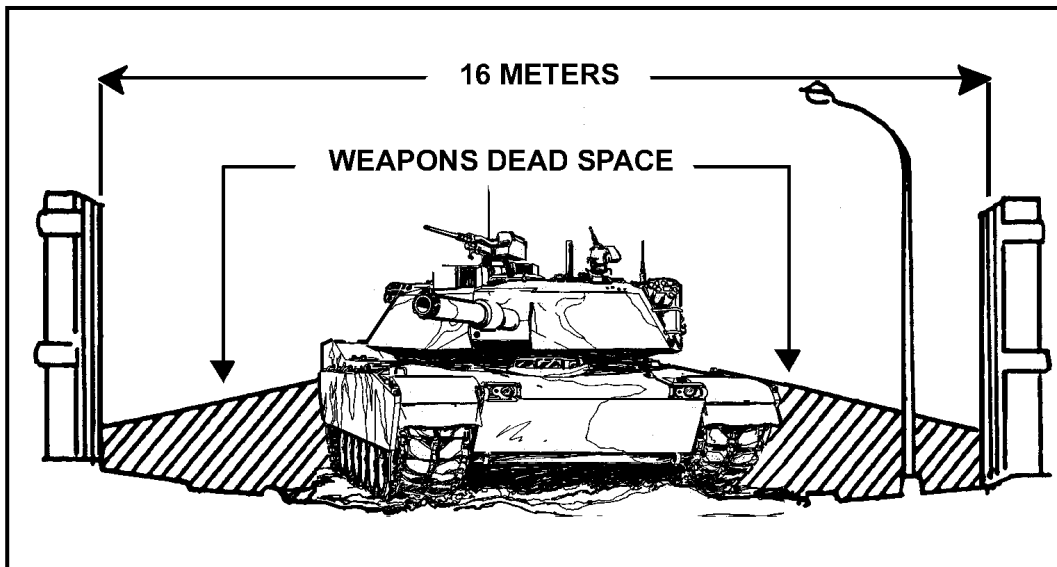
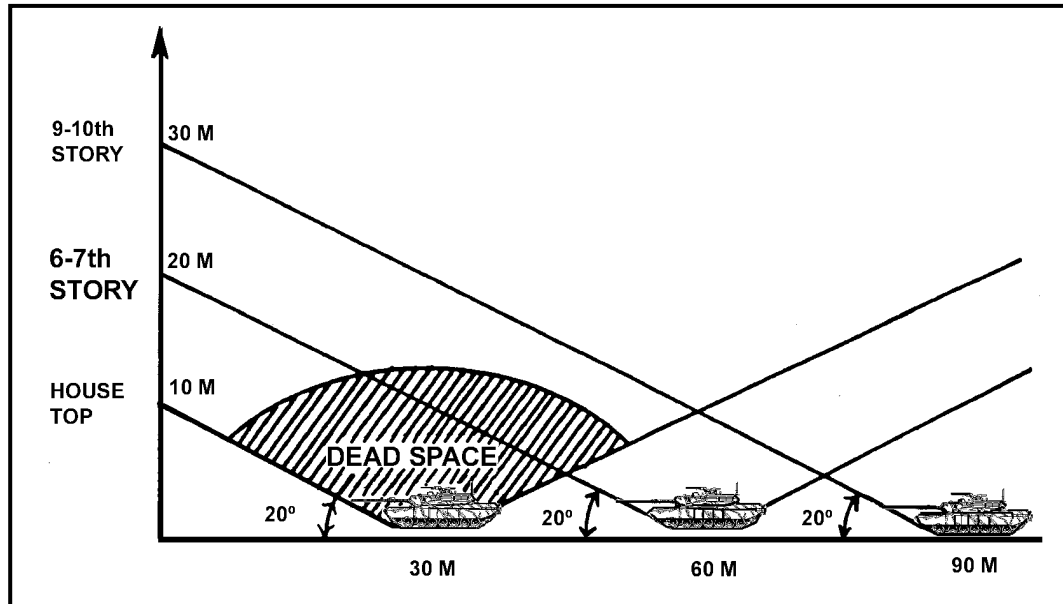

Figure 7-15. Tank cannon dead space at street level.
Figure 7-16. Tank cannon dead space above street level.
(1) The M1 and M1A1/M1A2 tanks can elevate their cannon +20 degrees and depress it -10 degrees. The lower depression limit creates a 35-foot (10.8-meter) dead space around a tank. On a 16-meter-wide street (common in Europe) this dead space extends to the buildings on each side (Figure 7-15). Similarly, there is a zone overhead in which the tank cannot fire (Figure 7-16). This dead space offers ideal locations for short-range antiarmor weapons and allows hidden enemy gunners to fire at the tank when the tank cannot fire back. It also exposes the tank's most vulnerable areas: the flanks, rear, and top. Infantrymen must move ahead, alongside, and to the rear of tanks to provide close protection. The extreme heat produced immediately to the rear of the M1-series tanks prevents dismounted infantry from following closely, but protection from small-arms fire and fragments is still provided by the tank's bulk and armor. The M1-series tanks also have a blind spot caused by the 0-degree of depression available over part of the back deck. To engage any target in this area, the tank must pivot to convert the rear target to a flank target.